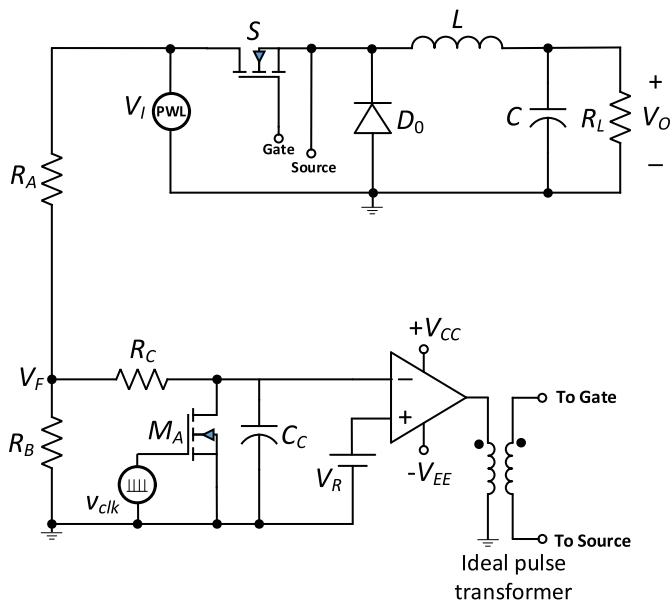

Figure 44.2 Circuit of the buck dc–dc converter with input voltage feedforward control used to simulate step change in the input voltage.
1. Replace the input dc voltage source with a piecewise-linear voltage source as shown in Figure 44.2. Define the voltage profile as given in Table 44.2.